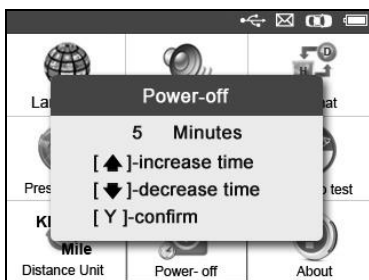

Figure 2.10
- 2) Press **UP/DOWN SCROLL** button to increase or decrease the time to auto power-off the tool, and then press the **Y** button to confirm your change or the **N** button to exit without change. (Figure 2.10)